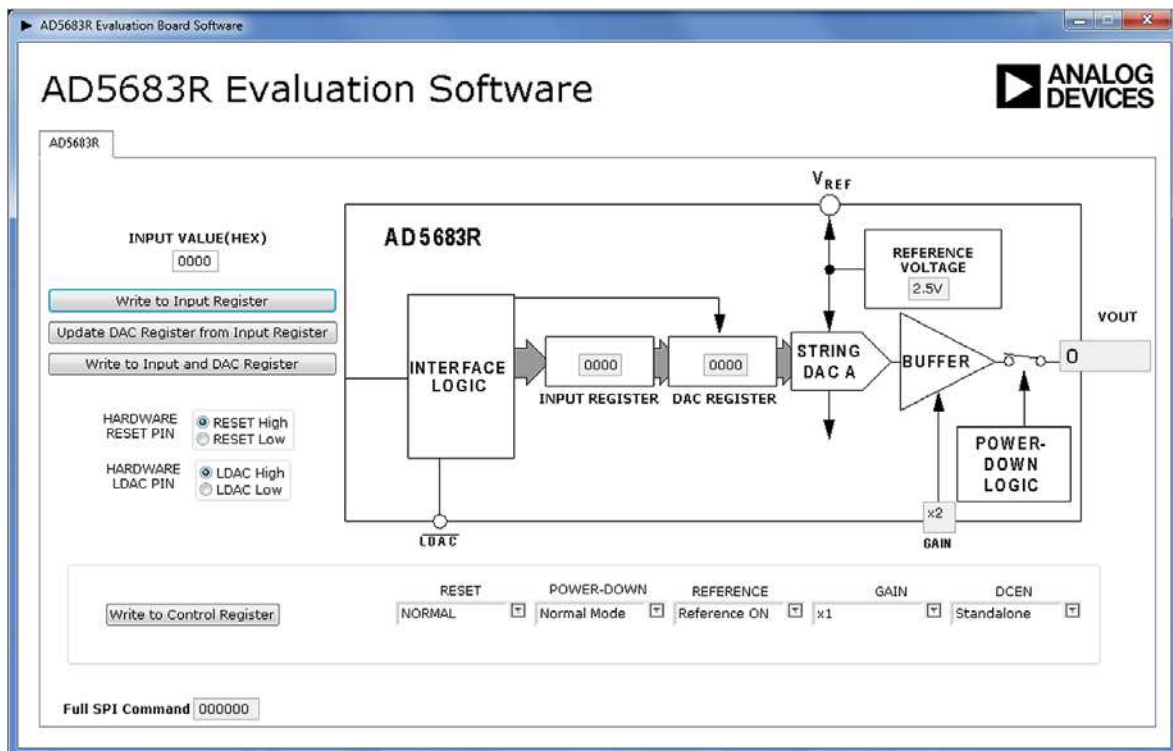

Figure 5. AD5683R Evaluation Board Main Window
5. The main window of the **AD5683R** evaluation software then opens, as shown in Figure 5.
The AD5683R main window opens, as shown in Figure 5. The data programmed into the input register is displayed. You can update the command bits and the data bits by clicking the appropriate button under each area.